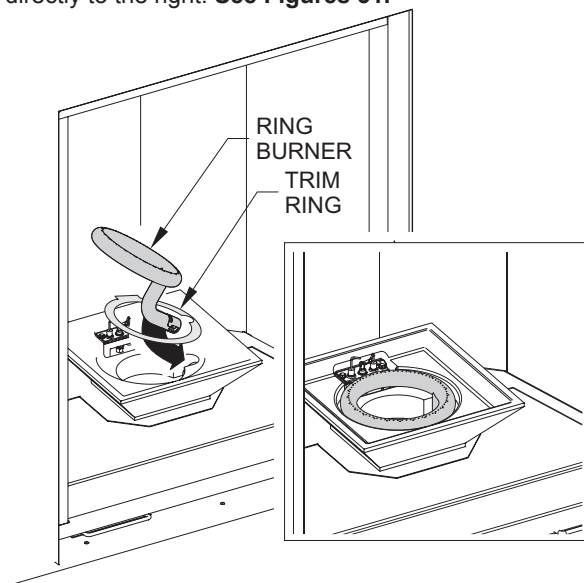

Figure 51
5. Insert Trim Ring and Ring Burner into Media Vessel. Look through the perforated floor material to fit the air shutter over the orifice holder. The Ring Burner air shutter will point directly to the right. **See Figures 51.**